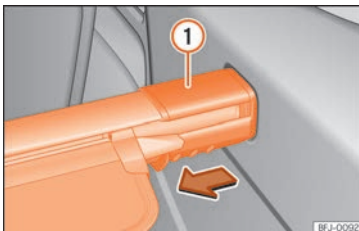

Fig. 153 In the boot: removing the rear shelf.
- Press the support of the cover »» Fig. 153 ① in the direction of the arrow and hold it in this position.
- Remove the cover support »» Fig. 153 ①.